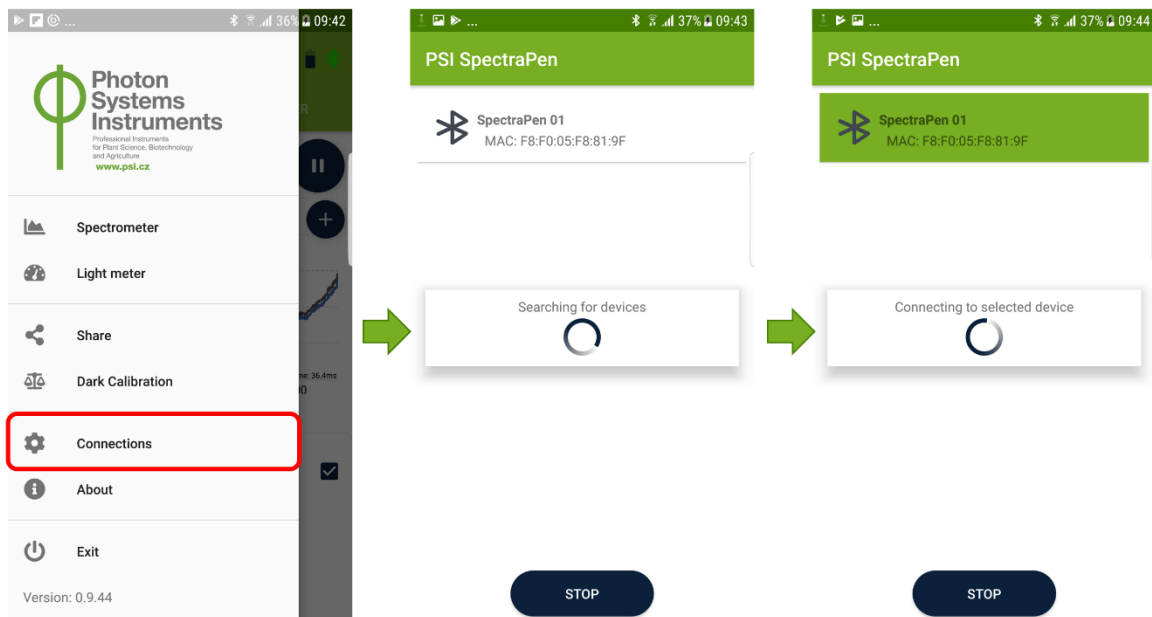

Fig. 2 Pairing of the SpectraPen mini with the mobile application.
5. Open the **SpectraPen application** and navigate in the side bar menu to **Connections** (Fig. 2). The application automatically searches the available SpectraPen mini devices; then select the required one. Last two numbers in the name of searched devices correspond to the last two numbers of serial number placed on the bottom of the device. Once the SpectraPen mini device is paired with the application the Bluetooth mark in the right corner of the application window changes to green .